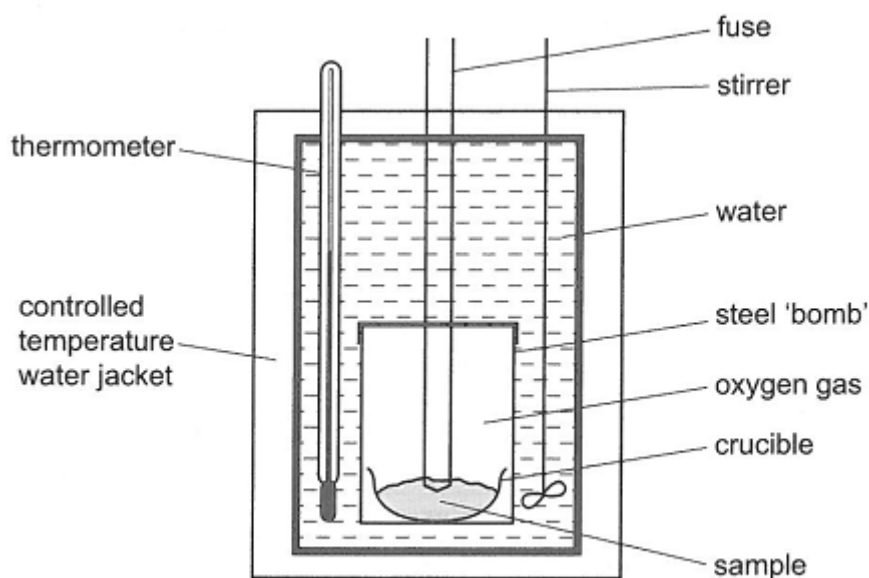

Fig. 3.1
- (c) Fig. 3.1 shows a bomb calorimeter, inside a controlled temperature water jacket, which is used to find an accurate value of standard enthalpy change of combustion of oleic acid.